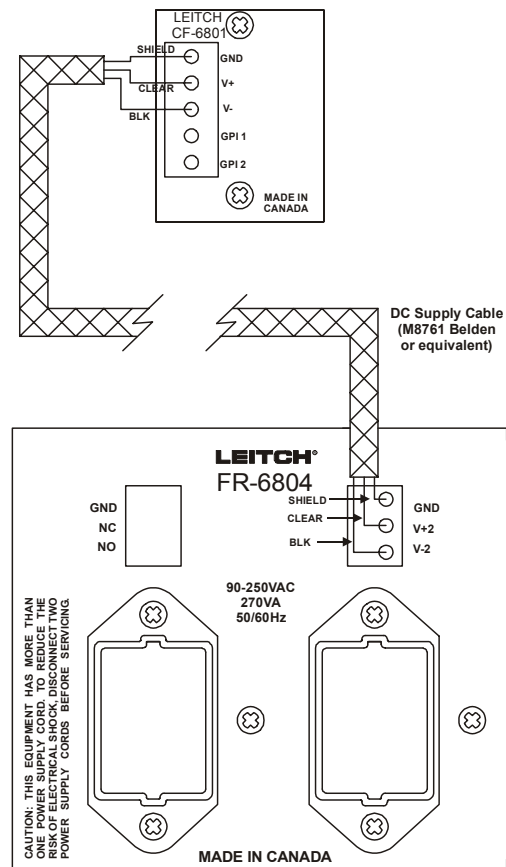

Figure 3-1. FR-6804(-1) and CF-6801 Connections
3. Attach the DC supply cable to the DC 3-pin connector at the back of the FR-6804(-1), following the labeled positions for positive, negative, and ground. See Figure 3-1.